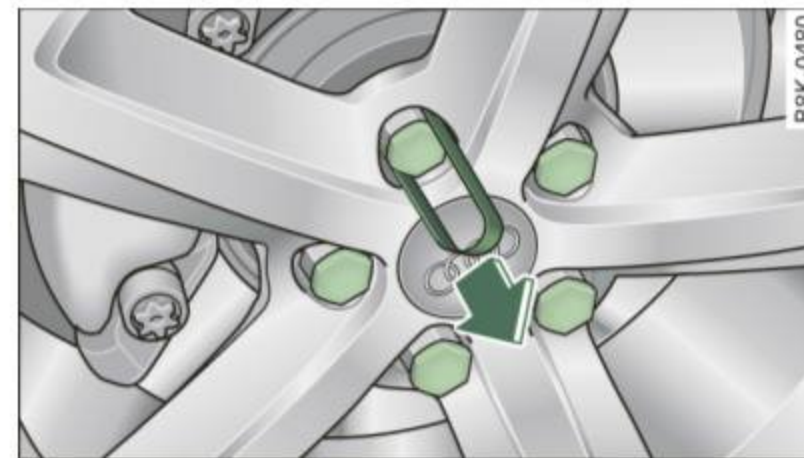

Fig. 229 Changing a wheel: removing the wheel bolt caps
- Pull on the **plastic clip** to remove the cap ⇒ fig. 229.